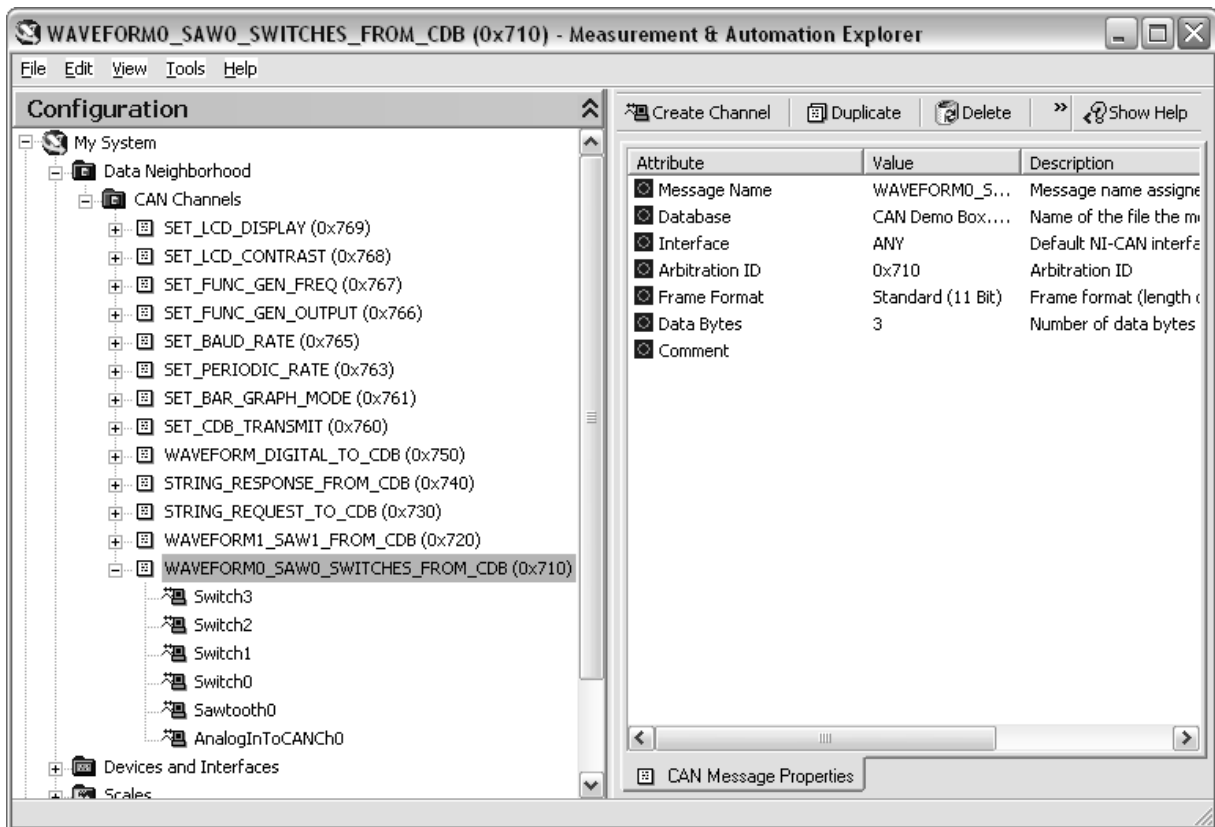

Figure C-9. WAVEFORM0_SAW0_SWITCHES_FROM_CDB (0x710) Message
- Expand the message **WAVEFORM0_SAW0_SWITCHES_FROM_CDB (0x710)** to see the channels in that message, as shown in Figure C-9.